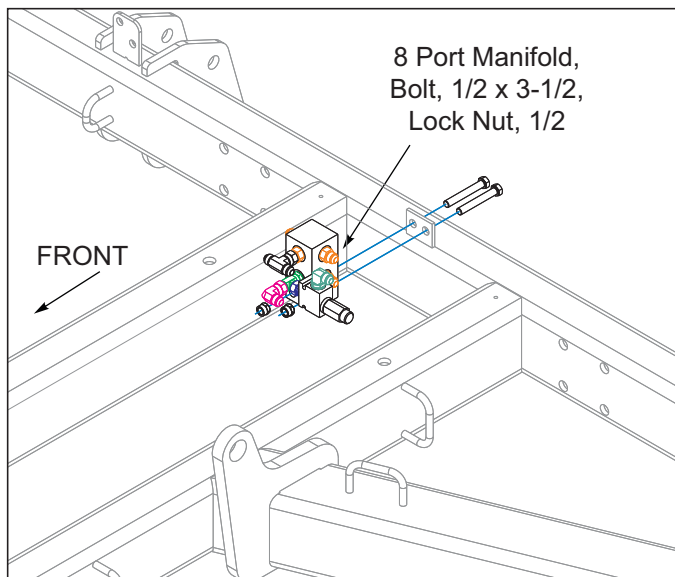

Figure 3-10: 8 Port Manifold 7531-26'-29'
5. Models 7531-26'-29' install the 8 port manifold, bulkhead mount in position shown, See Figure 3-10, using 1/2 x 4 bolts and 1/2 lock nuts.